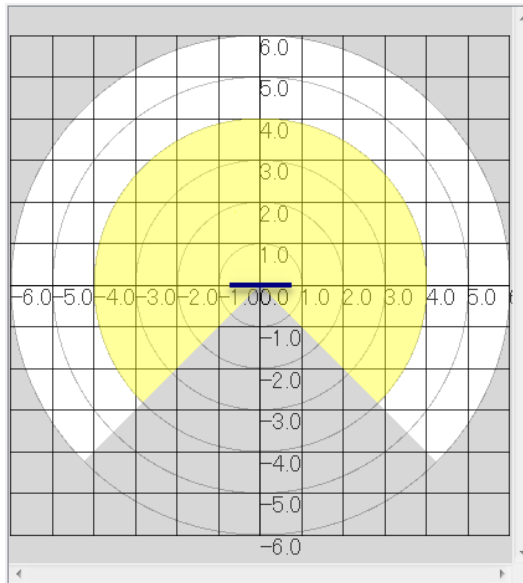

Fig 4.2.1.2.2 Default position of dependent offset bar
- It is possible to delete the offset value of the point by right-clicking of the mouse when the offset bar is selected, or press delete or the backspace key on the keyboard. The offset bar as shown in Fig.4.2.1.2.2.will be displayed in the default position of the coordinate origin.